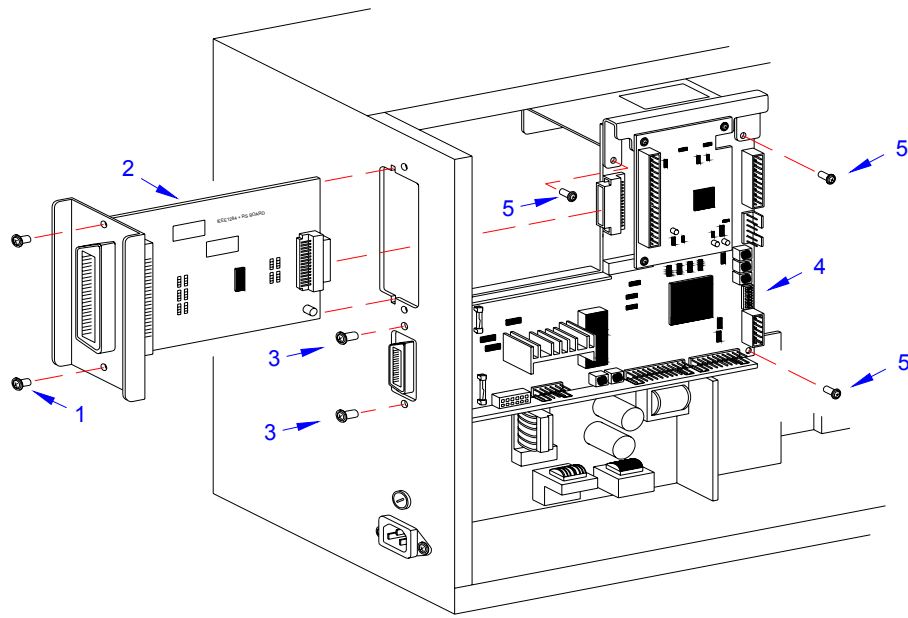

Figure 4-4a, Memory Expansion
- 3 Remove two screws (1, Figure 4-4a) securing interface board (2) to the rear printer housing.
- 4 Withdraw interface board (2) from printer.
- 5 Remove two screws (3) securing main circuit board (4) to the rear printer housing.
- 6 Remove three screws (5) securing main circuit board (4) to the printer frame.
- 7 Manipulate main circuit board (4) from printer.
- 9 Insert a standoff (7) onto each screw (6) from the back side of main circuit board (4).
- 10 Connect expansion board (8) to the back side of main circuit board (4).
- 11 Apply a nut (9) to the end of each screw (6). Tighten securely.
- 12 Apply a screw (10) into the lower left corner of expansion board (8). Tighten securely.
- 13 Apply a screw (10) into the front of main circuit board (4) to secure the upper left corner of expansion board (8). Tighten securely.
- 14 Insert main circuit board (4, Figure 4-4a) into the printer and secure using three screws (5) and two screws (3).
- 15 Insert interface board (2) into its respective slot to connect with main circuit board (4) and secure using two screws (1).